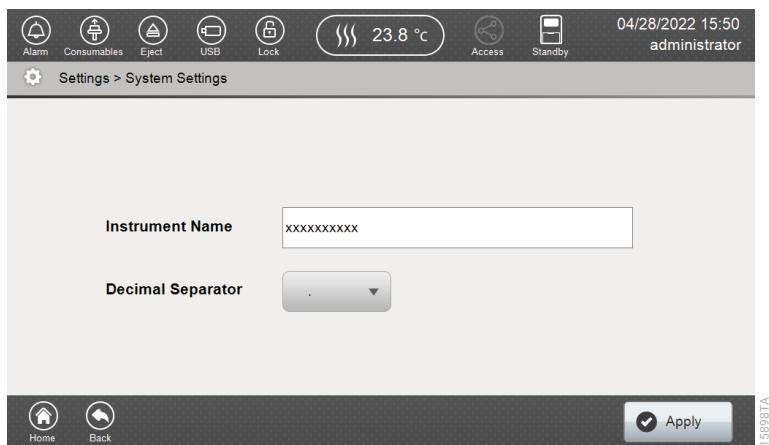

Figure 159. 'System Settings' screen.
1. Select **System Settings** in the 'Settings' screen (Figure 158) to open the 'System Settings' screen (Figure 159).